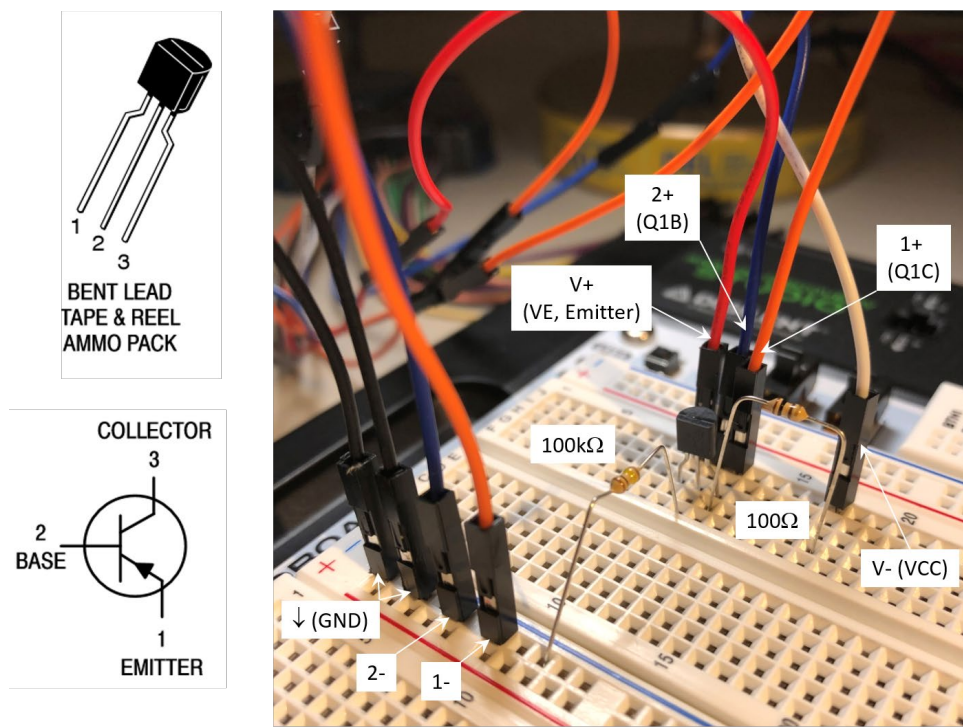

Fig. 4 Experimental setup for the DC characterization of a PNP-BJT 2N3906
2.5 Prepare the circuit, as shown in Fig. 4, using the same settings for V_E and V_{CC} in Steps 2.2 to 2.4.